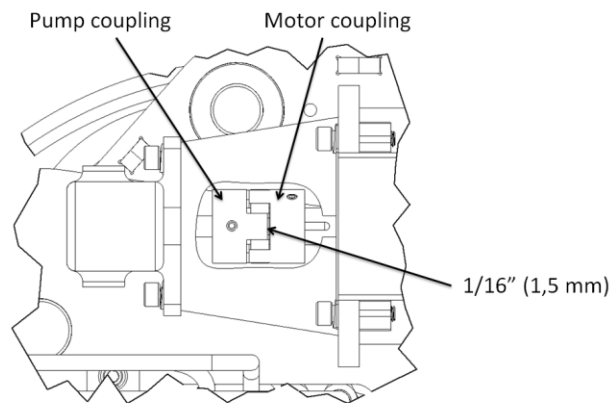

Figure 26 : Coupling adjustment
10. Using a flat screwdriver, adjust the distance between the 2 couplings to about 1/16" (1.5 mm) (see Figure 26).